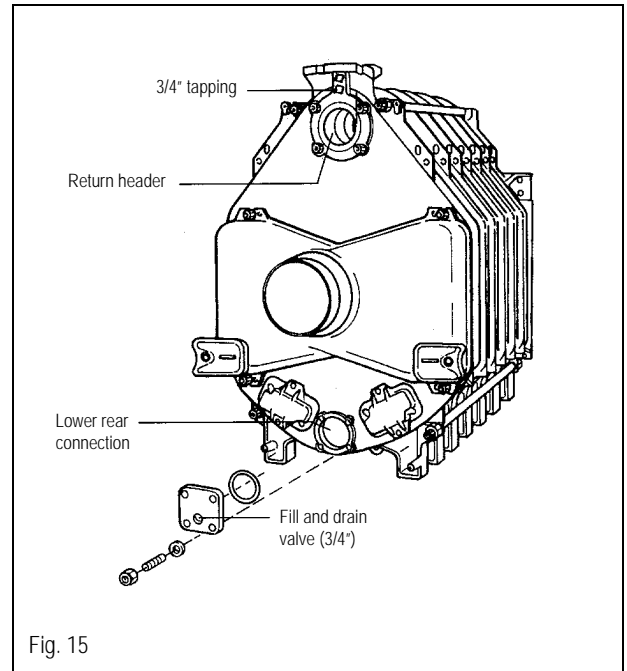

Fig. 15
- Install return header with gasket provided (Fig. 15).
- Install fill/drain at the lower rear connection (Fig. 15).